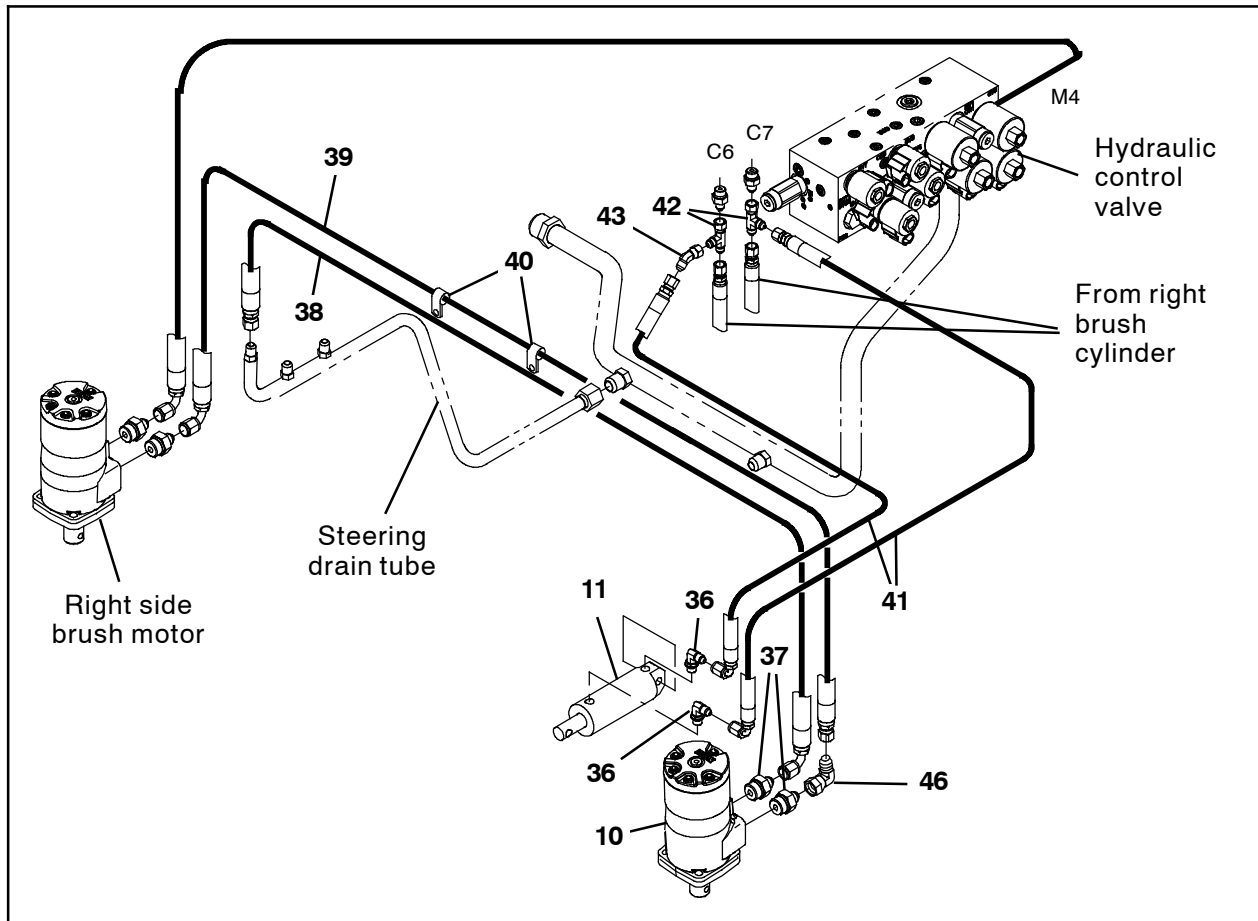

FIG. 7
18. Connect the 134 in. (3405 mm) hose (39) to the port on the right side brush motor. (Fig. 7)
19. Route the 134 in. (3405 mm) hose (39), to the left side brush and connect the hose to the left side brush. (Fig. 7)
20. Connect the 102 in. (2591 mm) hose (38) to the left side brush and route the hose to the steering drain tube. (Fig. 7)
21. Connect the 102 in. (2591 mm) hose (38) to the location where the 86" hose to the steering drain tube. (Fig. 7)
22. Disconnect the right brush cylinder hoses from ports C6 and C7 on the hydraulic control valve. (Fig. 7)
23. Install a 45° fitting (43) onto one t-fitting (42). (Fig. 7)
24. Install the t-fitting (42) with the 45° fitting (42) into port C6 and the remaining t-fitting (42) into port C7 the hydraulic control valve. (Fig. 7)
25. Connect a 126 in. (3200 mm) hose (41) to the fittings installed into ports C6 and C7 of the hydraulic control valve. (Fig. 7)
26. Route the both 126 in. (3200 mm) hoses (41) connected to the hydraulic control valve to the hydraulic cylinder and attach the hoses to the cylinder. (Fig. 7)
27. Reinstall the right side brush hoses removed from ports C6 and C7 on the hydraulic control valve to the appropriate ports. (Fig. 7)